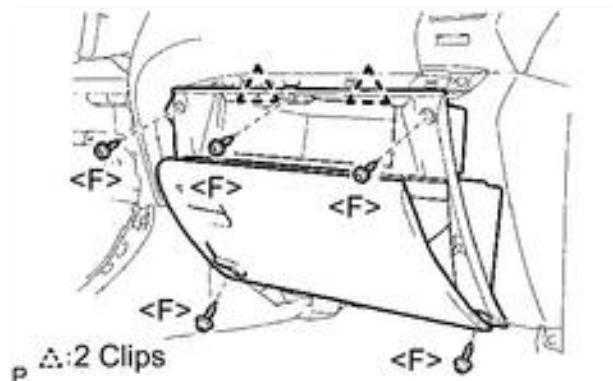

Figure 3 - Glove Box Compartment
- 3) Carefully remove the Instrument Panel Ornament (trim piece) above the glovebox. Carefully prying it off using a non-marking tool and surface protection, there are 4 clips securing it to the dash. This will expose the screws holding the Glove Box Compartment. See Figure 3.